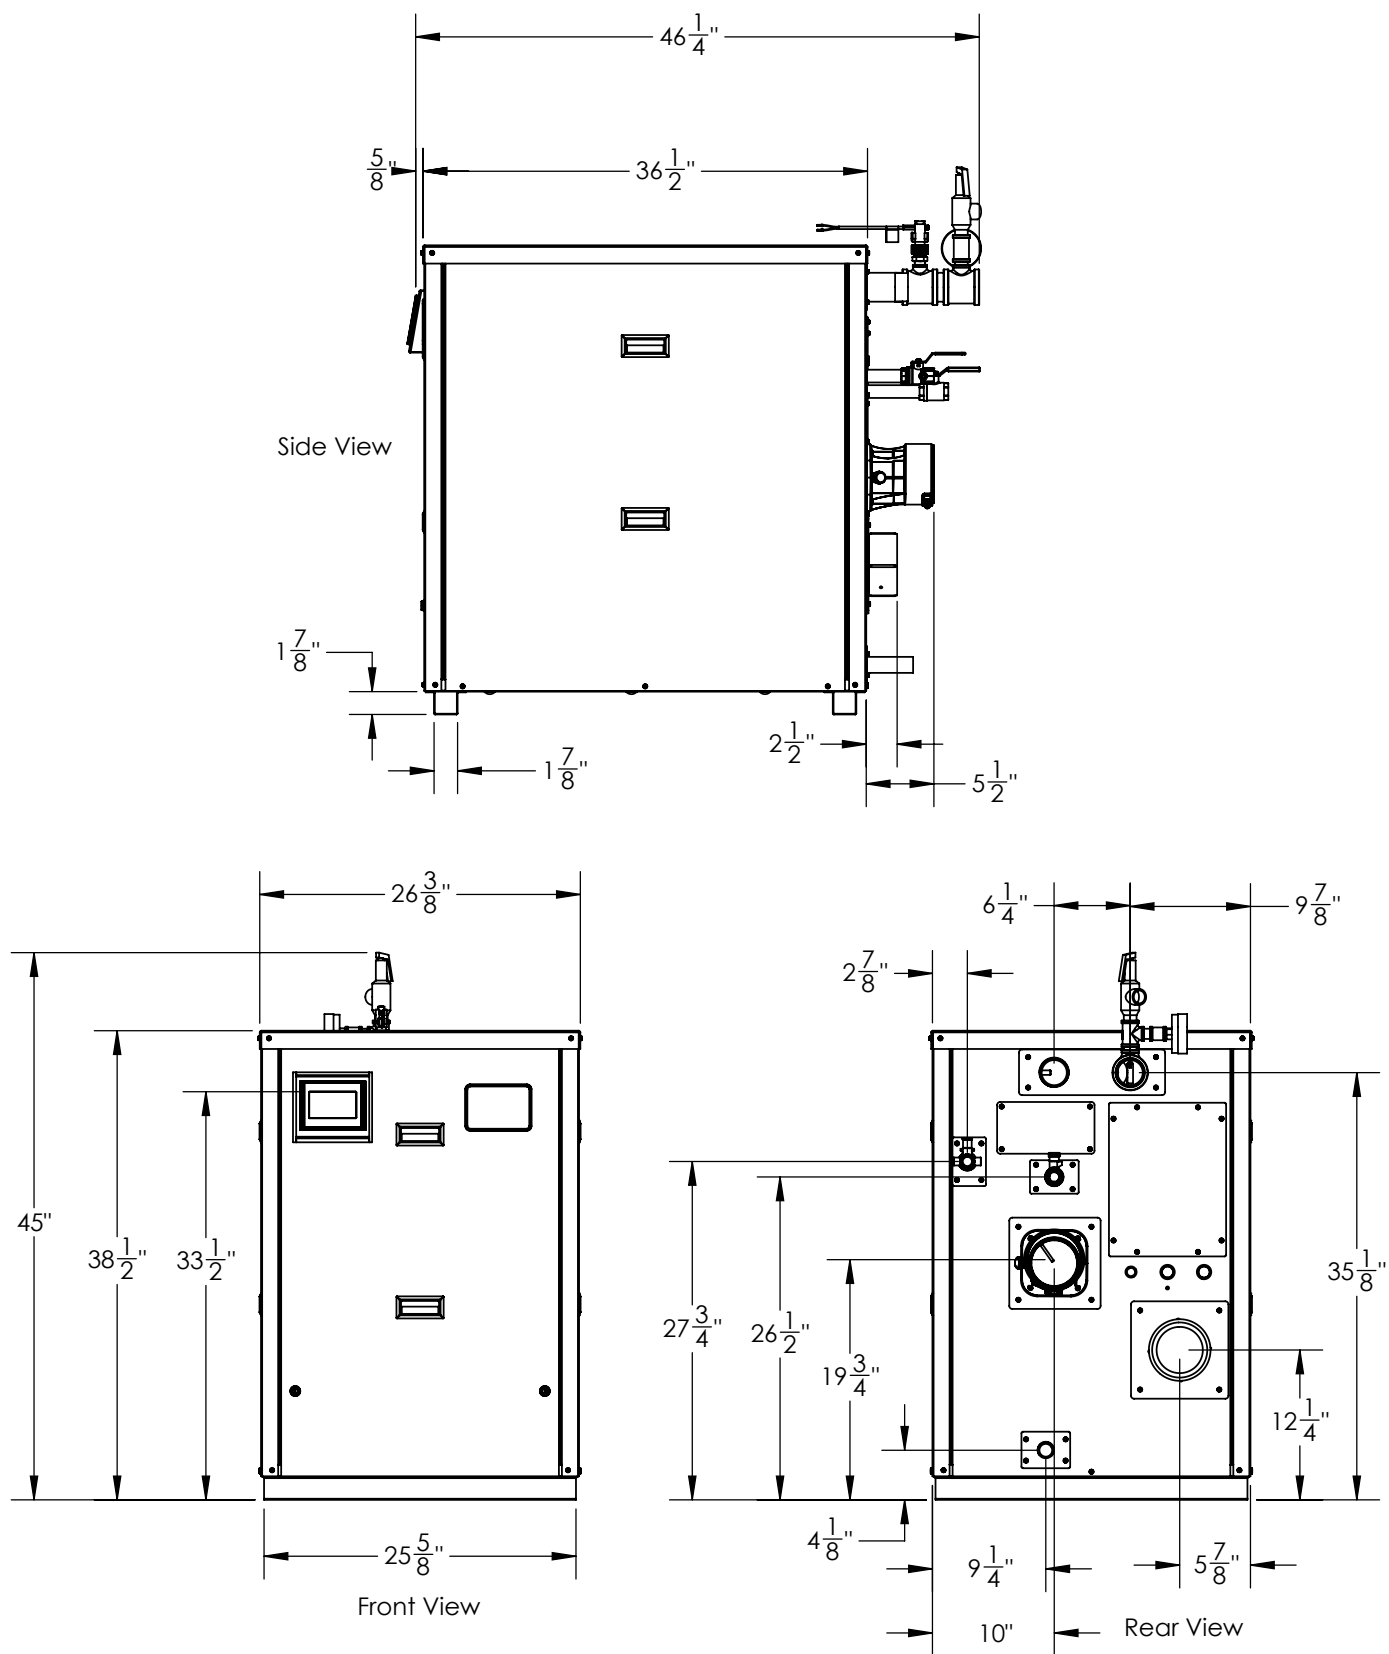
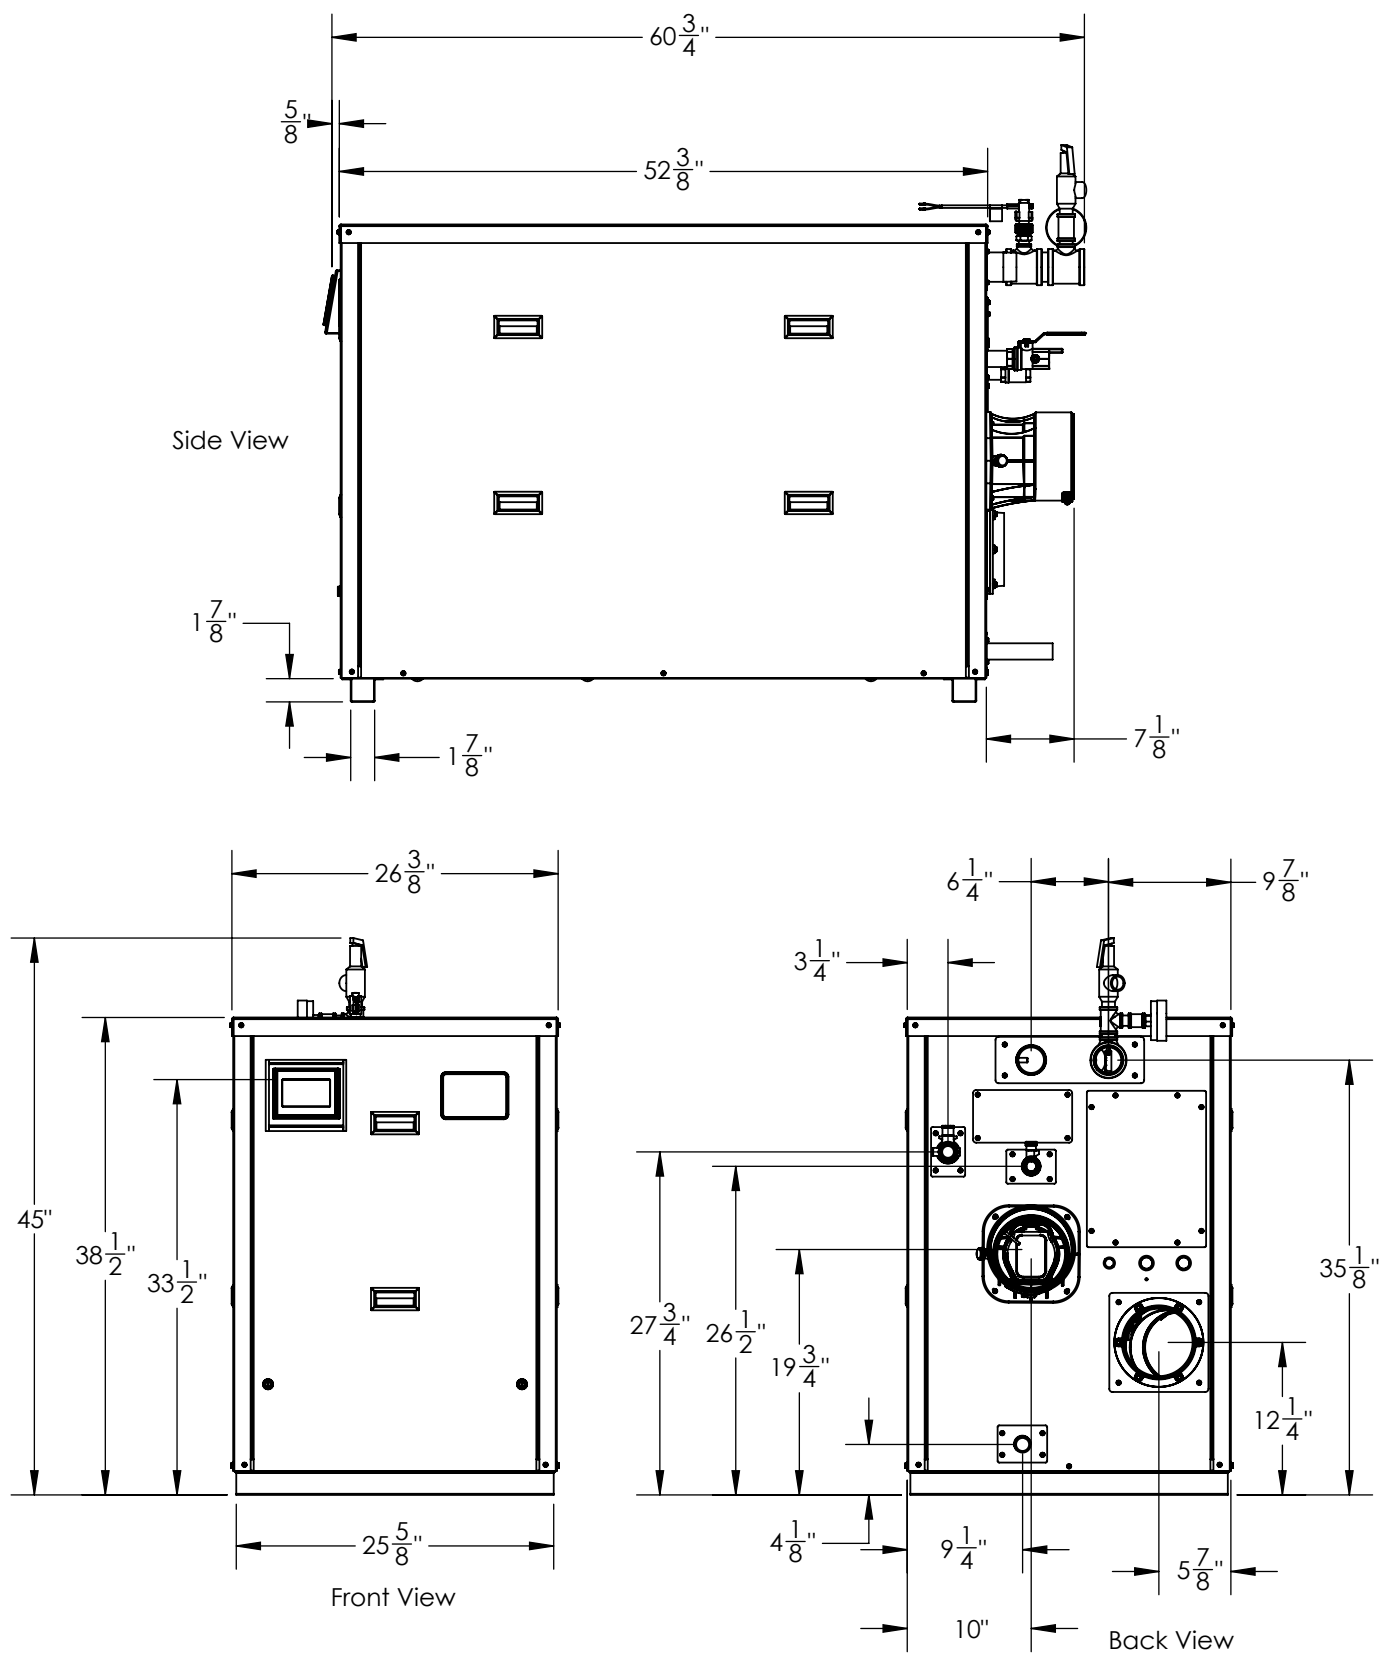

Figure 1: Citadel 400-500 Dimensions
Figure 2: CTD 650-1000L Dimensions
6. Ensure the included polypropylene vent adapter is installed in the proper orientation. The clamp screw faces down, and the test port faces right (Gas train side). See Figure 1 and Figure 2.